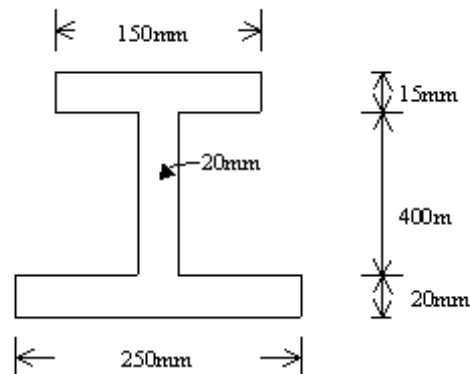

Figure 1b
- (b) A rolled steel joist of I section has dimensions as shown in Figure 1b. This beam of I section carries a u.d.l of 50 kN/m on a simply supported span of 10m. Calculate the stresses produced due to bending. [4+12]